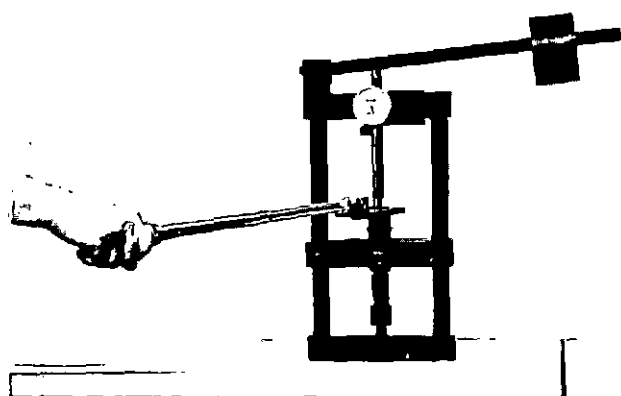

Fig. 4-8, (F60232). Tighten the locknut on the top stop injector
9. Tighten the stop locknut with the 3375166 crows-foot wrench to 55 ft/lb [75 N•m] torque, Fig. 4-8. Recheck the travel to make sure it was not changed by tightening the locknut.